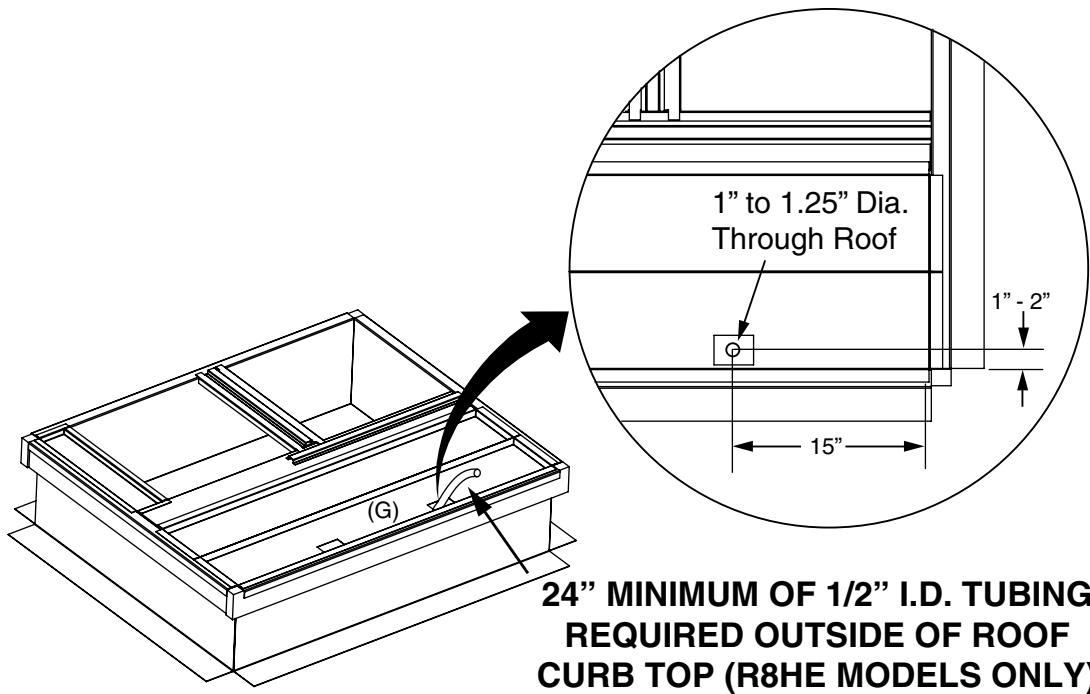

Figure 1. Typical 2 - 5 Ton Roof Curb Layout
- The Condensate Drain & Vent Kit # 922485 is set up for installing the HX condensate drain line straight down through the roof. It is recommended to drill a 1.00"-1.25" diameter hole through the roof below the rectangular opening located in outer close off curb panel (G), approximately 15" in from the short side of curb and 1"-2" in from the long side of curb. See Figure 1 \(page 3\).
- If drilling a hole is not an option, routing the condensate drain hose over to the duct passage opening with enough slope is acceptable as long as drain line is secured to curb and duct, ensuring no kinks or traps can form between the collector box drain or interior of the building. Leave a minimum of 24" drain line extending out the top of roof curb front close off panel (G) for passage through unit bottom and connection to unit drain when unit is being set. See Figure 1 \(page 3\). Seal roof penetration as required.
- Cut and remove the insulation covering the 2" x 3" condensate drain passage in outer panel (G) only. **Before installing inner panel (G) make sure there is enough slope and there are no kinks or high spots that could trap water in the line prior to entering the warmer interior of the building where a drain trap is SUPPLIED AND REQUIRED.**